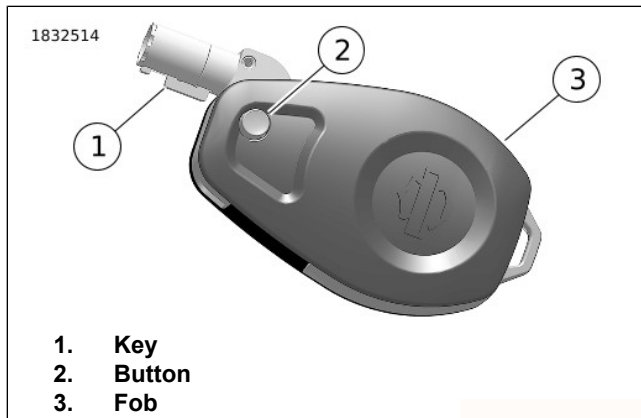

Figure 23. Key Operation
Extend key: See Figure 23. Press the button (2) to extend the key.
1. See Figure 23. Press button (2) to extend key (1).